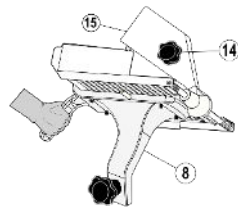

FIG 5. USING CARRIAGE TRAY
3.- Push down the handgrip (15) using its Knob (14) to fix product. You can use this knob to slide the carriage back and forth with the same hand or use the carriage support handle (8). (Fig. 5).
4.- Move the carriage all the way back and select the thickness using the Slice adjusting knob (6).